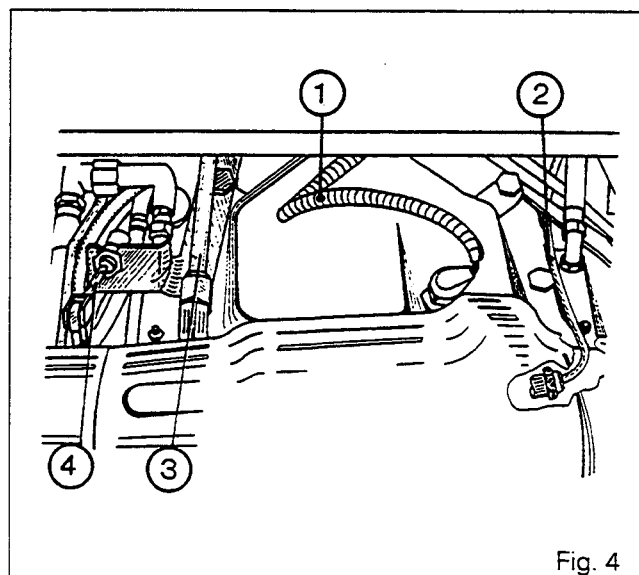

Fig. 4
7. Disconnect (Fig. 4):
- the vehicle sensor wire assembly (1)
- the position sensor wire assembly (2)
- the differential lock pipe (3)
- the cable (4) (4-speed PTO, if fitted)